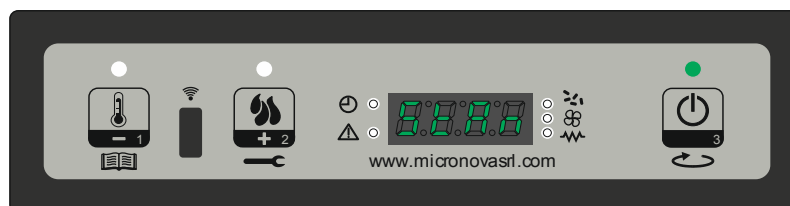

figure 16
- Allows you to enable or disable Standby mode (*figure 16*). Once you have selected the M4 menu using the P3 key, press P1 (to go down) or P2 (to go up) to switch between ON and OFF and vice versa. For more information on the standby function, please refer to the paragraph on standby, Chapter 7.8.